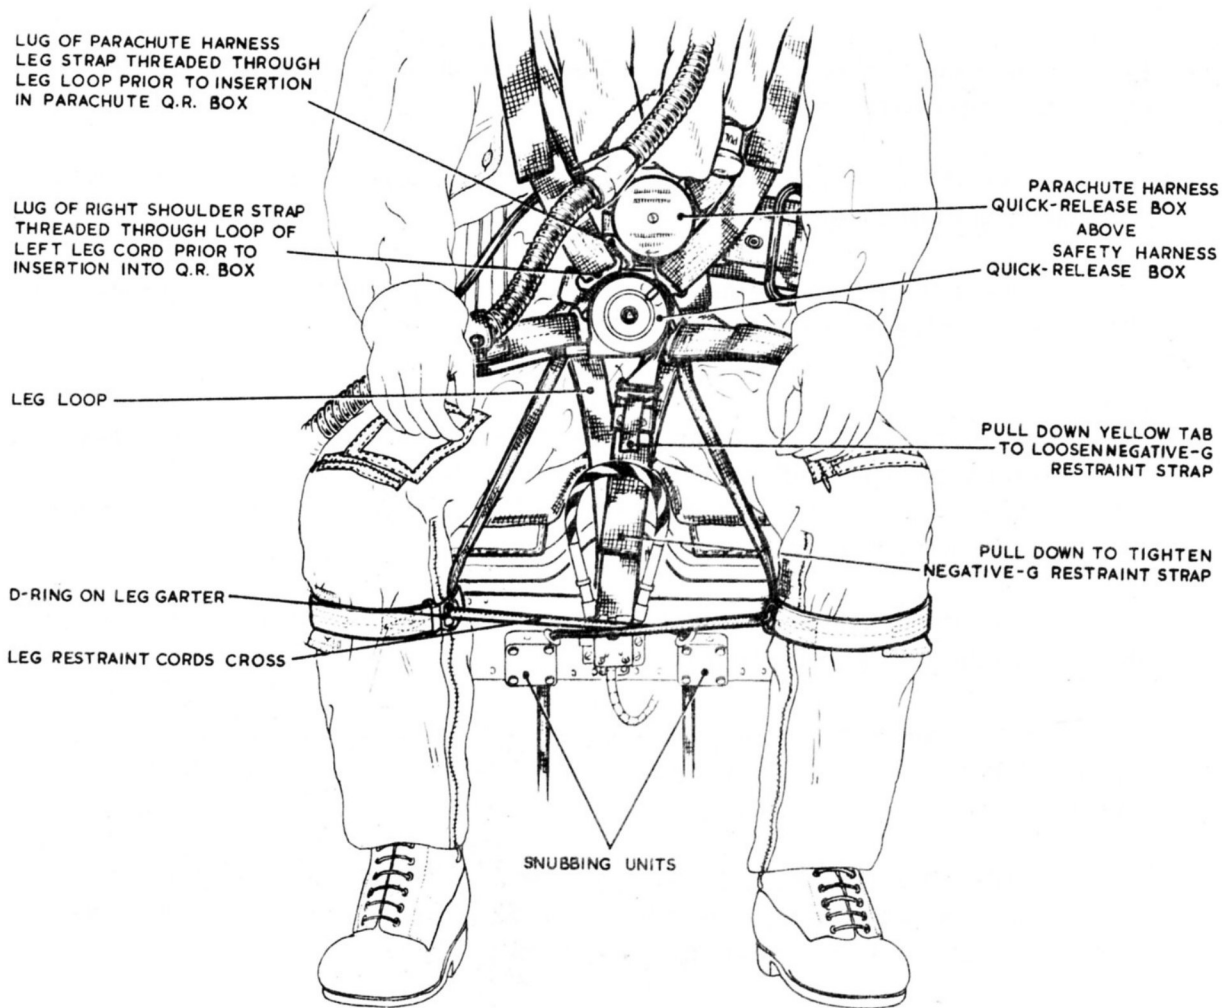

Fig 7 Arrangement of leg restraint cords and harness
19. When strapping-in proceed as follows referring to fig 7 to 9 for details as necessary:-